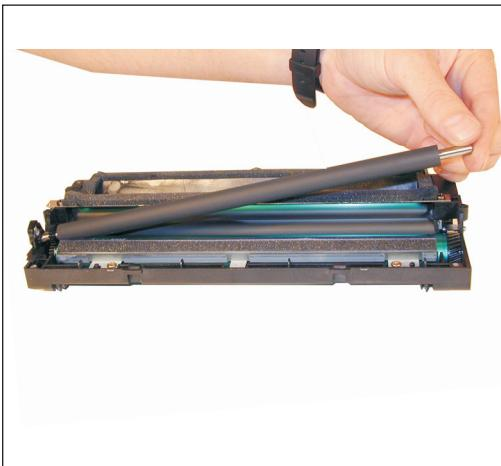

Figure 12
- 5) Remove the PCR. See Figure 12